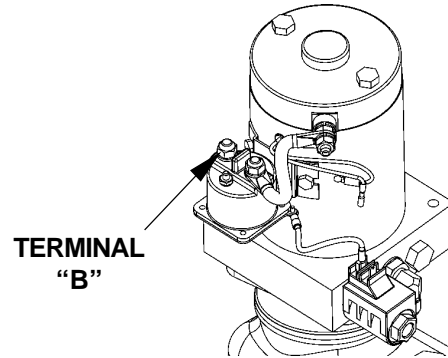

FIG. 48-1
1. Use voltmeter to verify that power is being supplied to Solenoid Terminal "B". Recharge the battery if voltmeter indicates less than 12.6 Volts (**FIG. 48-1**).